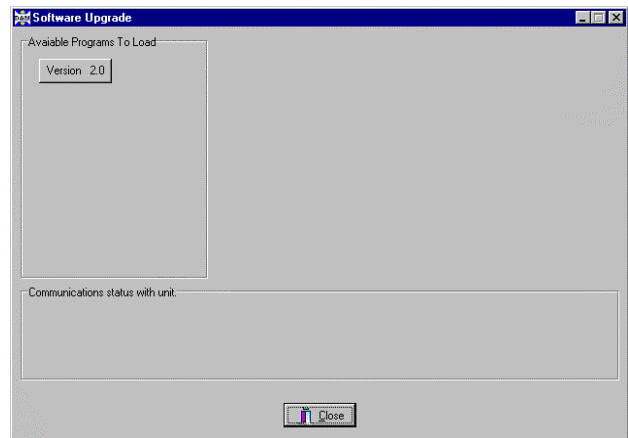

Figure 7
3. Pick the Version 2 Button (figure 7). It will take approximately 2 minutes to load the new software.